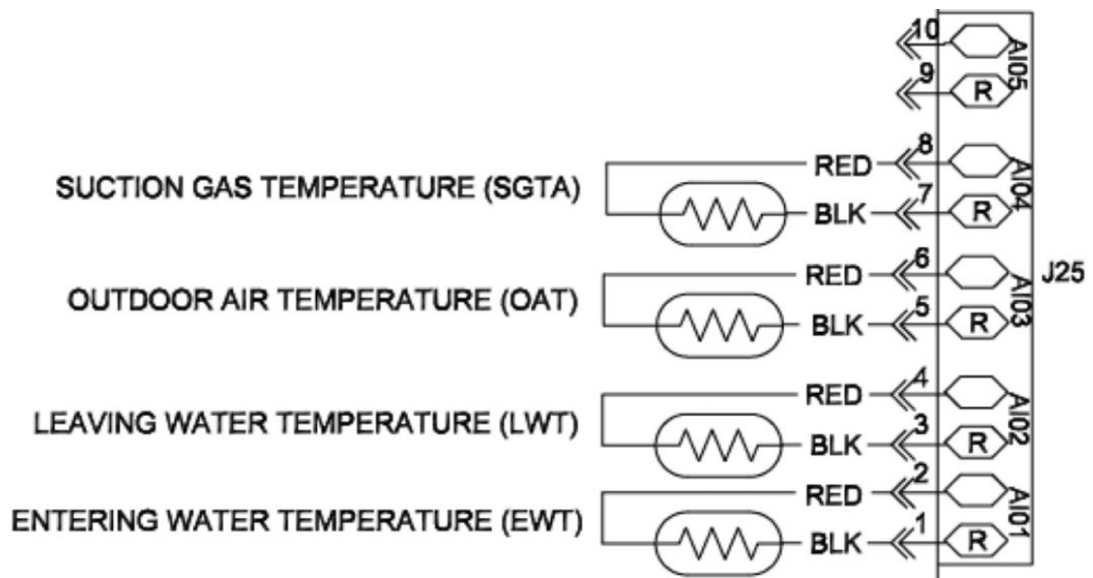

Fig. 8 — SIOB-A-J25 Connector
24. Label and cut EWT (entering water temperature) and LWT (leaving water temperature) thermistors approximately 1 ft from the SIOB-A-J25 connector. See Fig. 8.